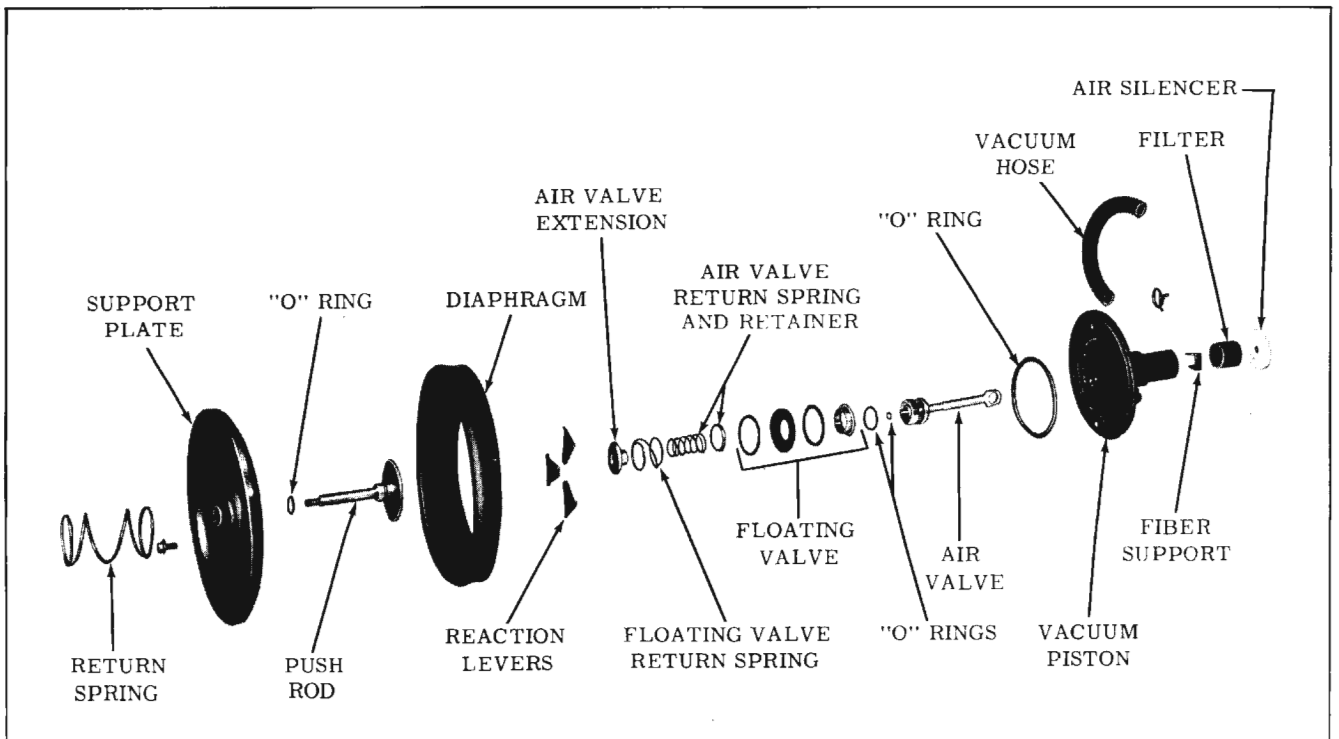

Fig. 7-19 Vacuum Piston Assembly
**DISASSEMBLY OF VACUUM PISTON (Fig. 7-19)**
#### VACUUM PISTON (Fig. 7-19)